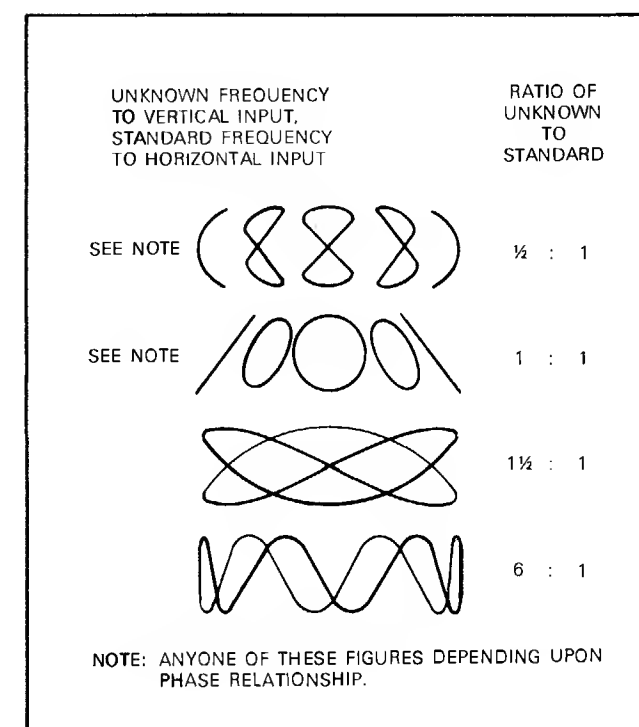

Fig. 22 Lissajous' waveforms used for frequency measurement
4. The resulting Lissajous' pattern shows the ratio between the two frequencies (see Fig. 22).